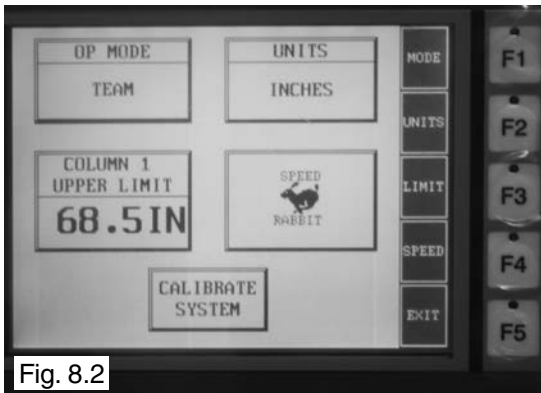
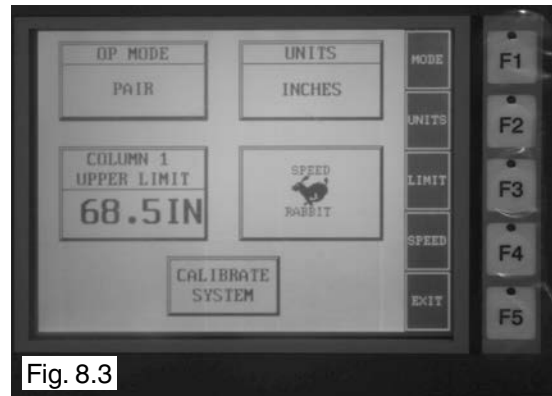
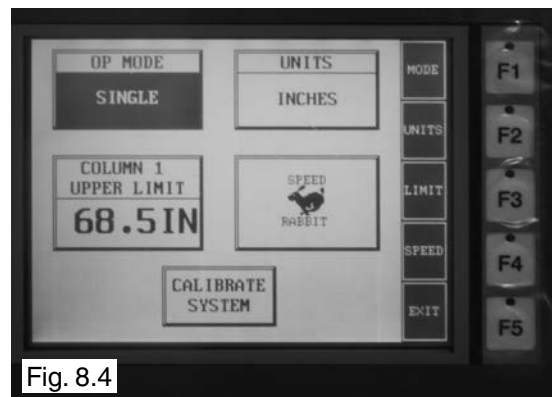

Fig. 8.2
Fig. 8.3
Fig. 8.4
5. To change the settings press the “MENU” or F4 button. (See Fig 8.2)
6. Pressing **OP MODE** or F1 allows the operator to control the movement of the entire system in Team mode (See Fig 8.2), Columns A and B in Pair mode (See Fig 8.3) or Column A by itself in Single Mode (See Fig 8.4)